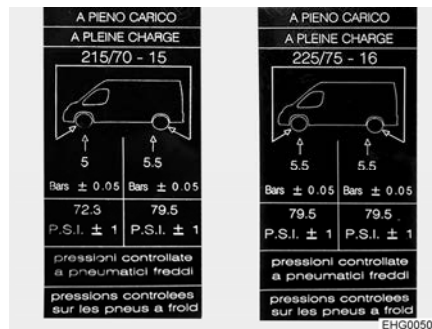

Fig. 226 Tyre pressure information sticker on B column (example)
- ▷ Information stickers with the required tyre pressure are attached to the inside of the B column (see Fig. 226).